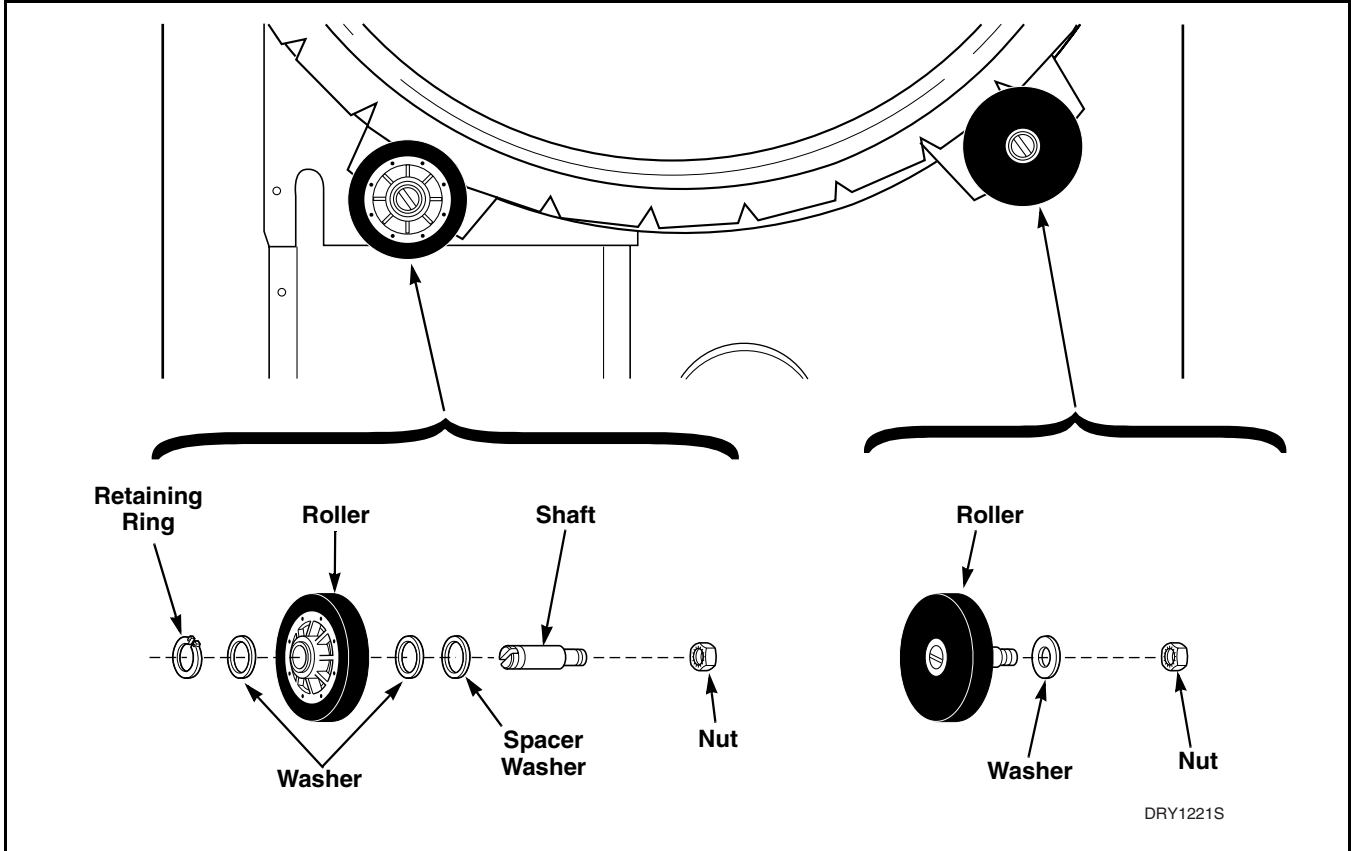

Figure 38
- Refer to *Figure 38* for removal of cylinder rollers and shafts.